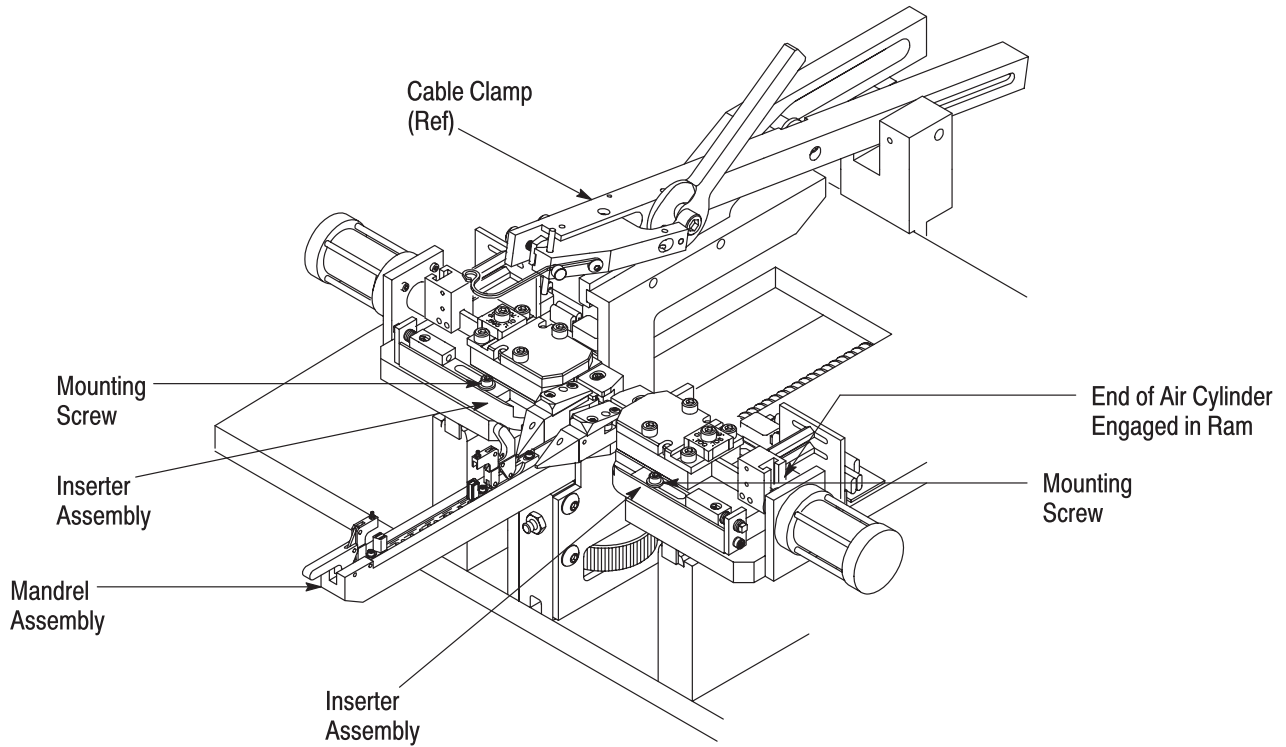

Figure 6
3. Insert and tighten the mounting screws with a 5/32-in. hex wrench. When properly mounted, the mandrel should appear as shown in Figure 6.